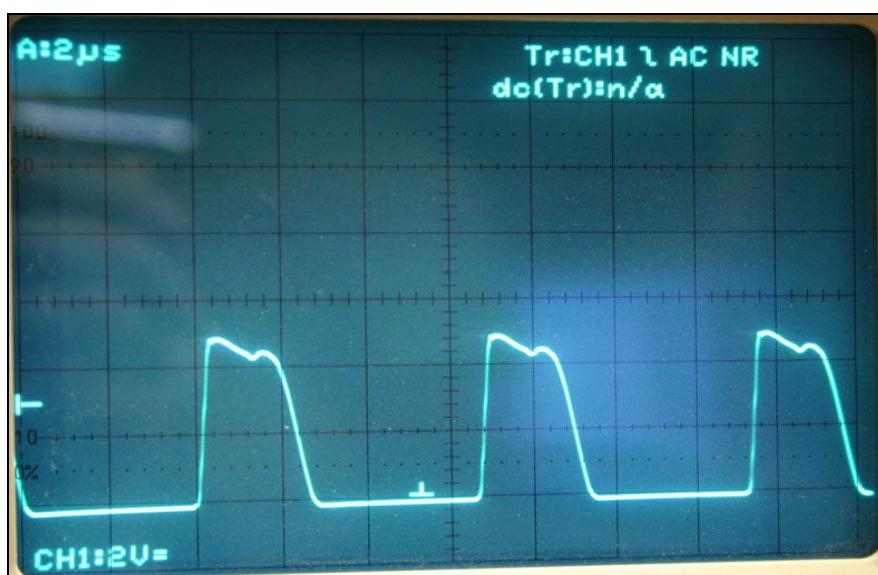

Fig. 4
4.	Slowly turn variac up to 100VAC, at the same time look at power supply oscilloscope. Line should increase simultaneously, look at power supply oscilloscope. Approximately at 100VAC power supply starts up (fig. 4). This can't be shut down, Always on when power cord is connected to AC.